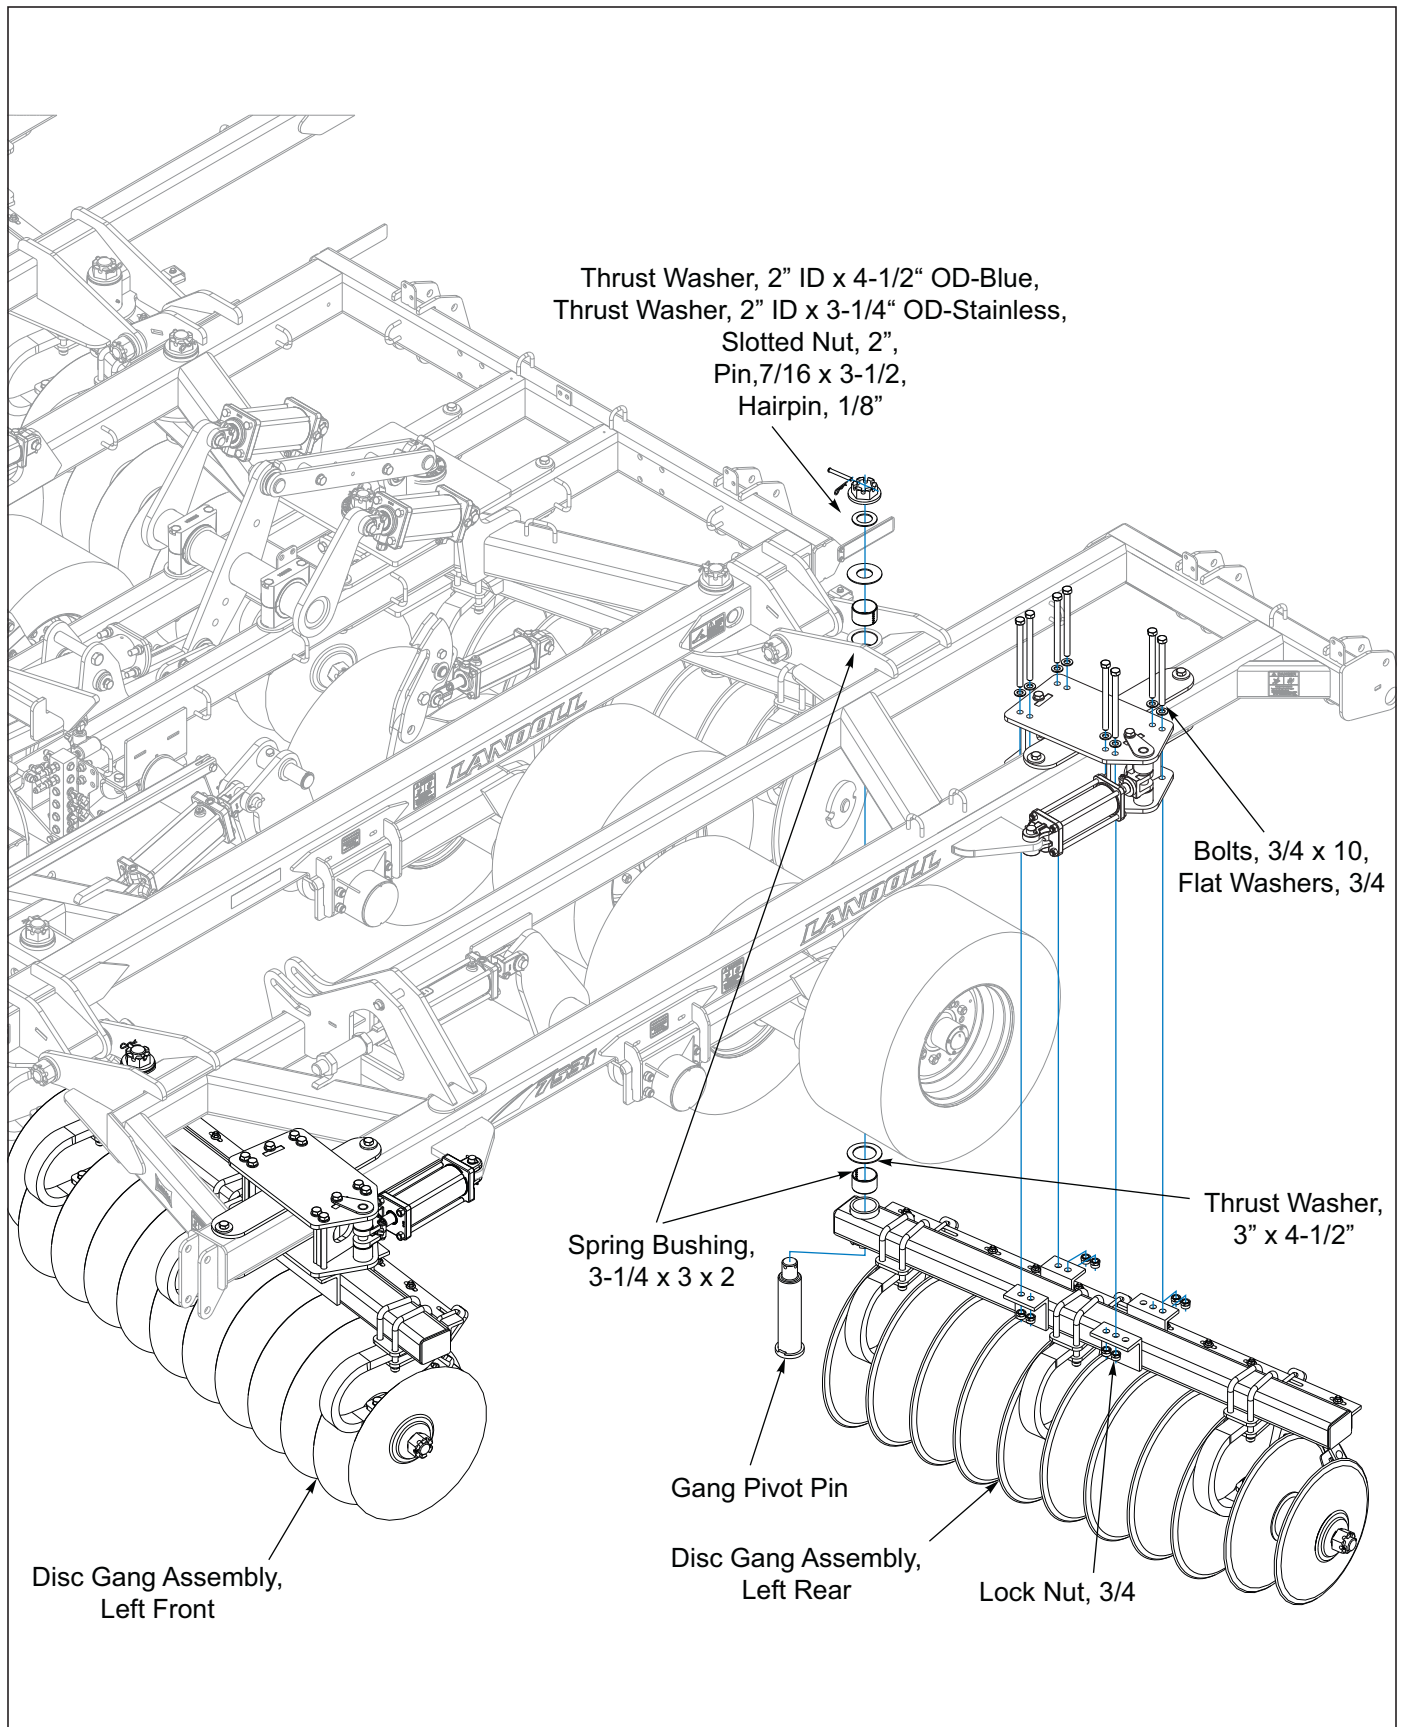
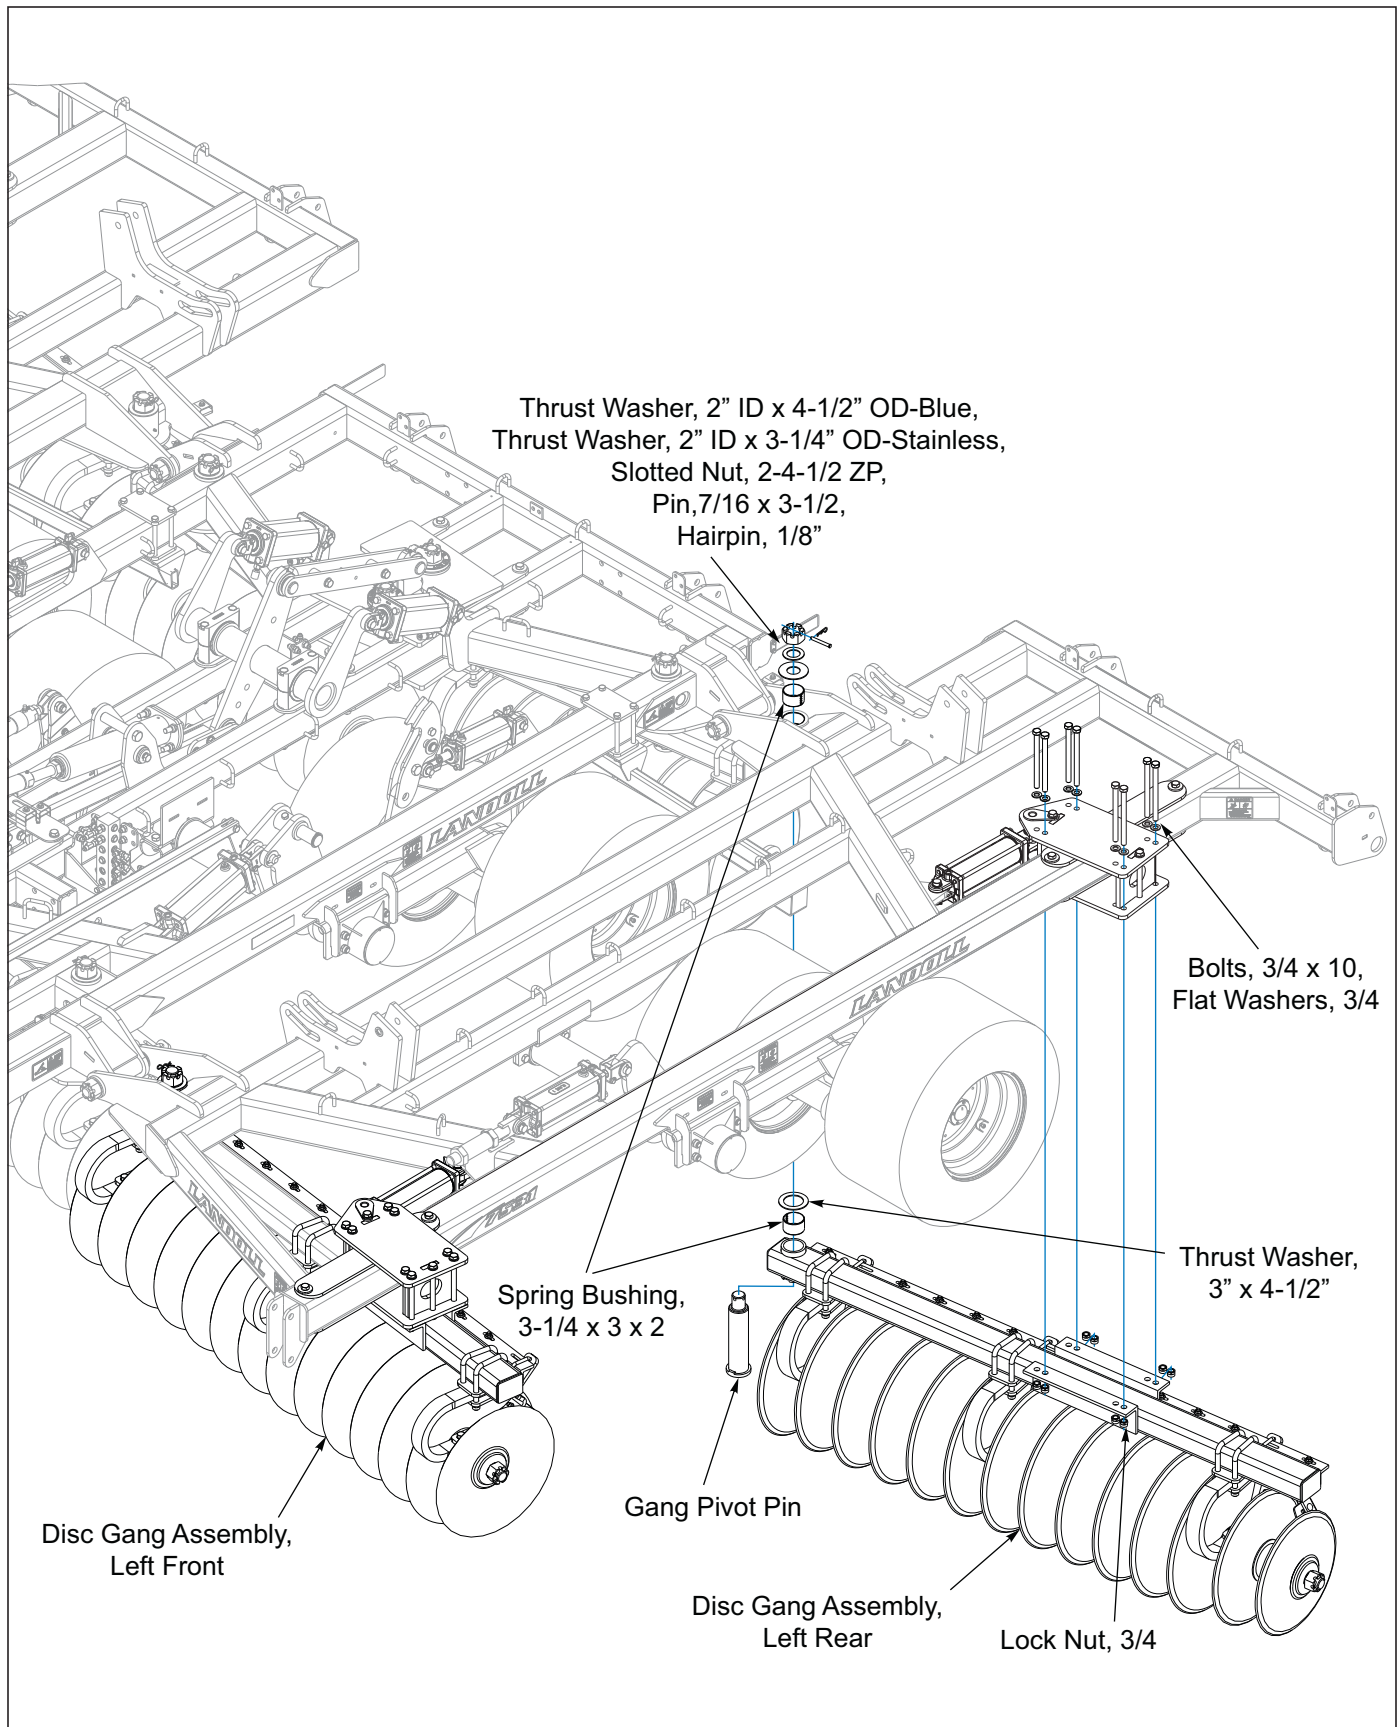

Figure 3-38: Wing Disc Gang Installation 7531-23'
Figure 3-40: Wing Disc Gang Installation 7531-26'-35'
1. Like the center frame gangs, install the front gangs first to keep the front end from coming up uncontrolled. Position the gang assemblies under the wing frame *See Figures 3-38, 7531-23', See Figure 3-40 and See Figure 3-40, 7531-26'-35'* and insert the gang pivot pin through gang pivot tube of gangbar, there are notches that will need to be aligned so the pin will not rotate in the gang bar. Install the 3" stainless steel thrust washer over the gang pivot pin, and pin will go on through the gang pivot mount welded to the inside of the wing frame hinges. Install the 2" diameter blue steel washer to the threaded end of the gang pivot pin along with the stainless thrust washer and gang pivot nut. If the top bushing in the wing frame pivot comes out a little while the pin is going through, just put the gang pivot nut on and hand tighten down to press it back into place.
2. Align the slide plates on the outer part of the wing up to the gang bar and install eight 3/4 x 10 bolts into the slide plates and through the angle iron on the gang bar, *See Figures 3-38, 7531-23', See Figures 3-40, 7531-26'-35'*, for placement of the bolts. Flat washers will be used on bolt head.